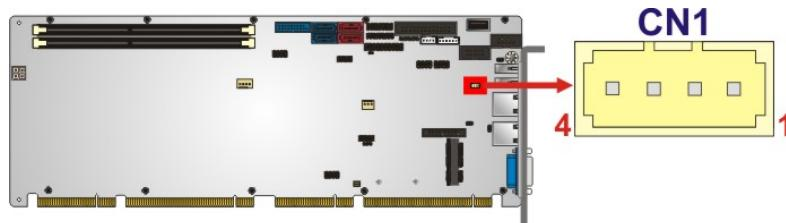

Figure 3-12: I2C Connector Location
**CN Location:** See Figure 3-12